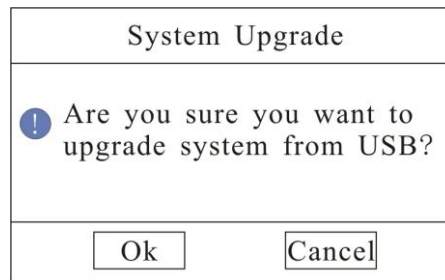

Fig. 65
(2) Enter “Main Menu—Advanced—Maintenance—USB Upgrade” as shown in Fig.65.